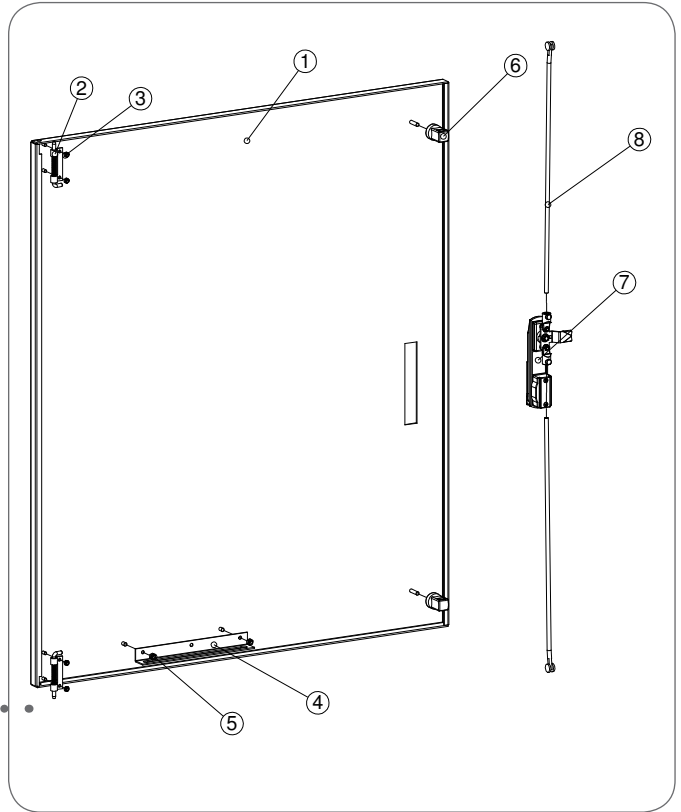

Fig. 2.3. Fastening of the door and adjacent components.
Next, install the spring-loaded hinges (2) in the M5x15 stamped bolts located in the corners of the door (1) with M5 nuts (3). Screw the bar of the hold-open hook (4) into the M6x10 stamped bolts that have been installed in the doors with M6 nuts (5). Screw the guide post (6) of the bars (8) of the three-point lock into the door. The above operations are shown in Figure 2.3.